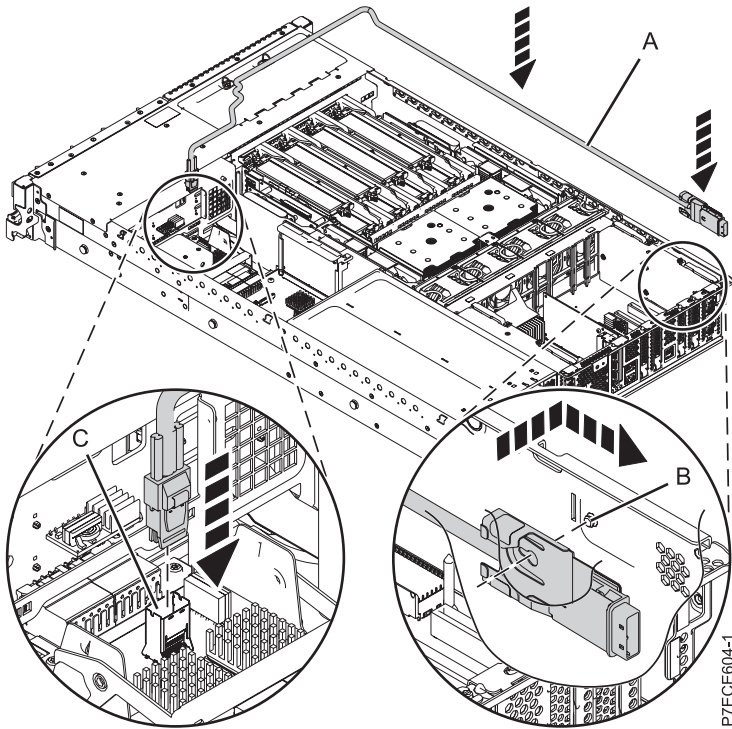

Figure 23. Replacing the SAS cable
- 1) Connect the mini-SAS connector of the SAS cable to the internal SAS connection port (C) on the storage interposer until it snaps in place. See Figure 23 on page 22.
- 2) Route the cable (A) in front of the memory riser cage, and along the channel in the side wall until the SAS port connector is near the opening on the rear of the chassis.
- 3) Align and guide the slot in the bracket of the SAS port connector (B) over the guide pin in the chassis, then slide the SAS port connector into the opening on the rear of the chassis until the tab on the bracket snaps in place.